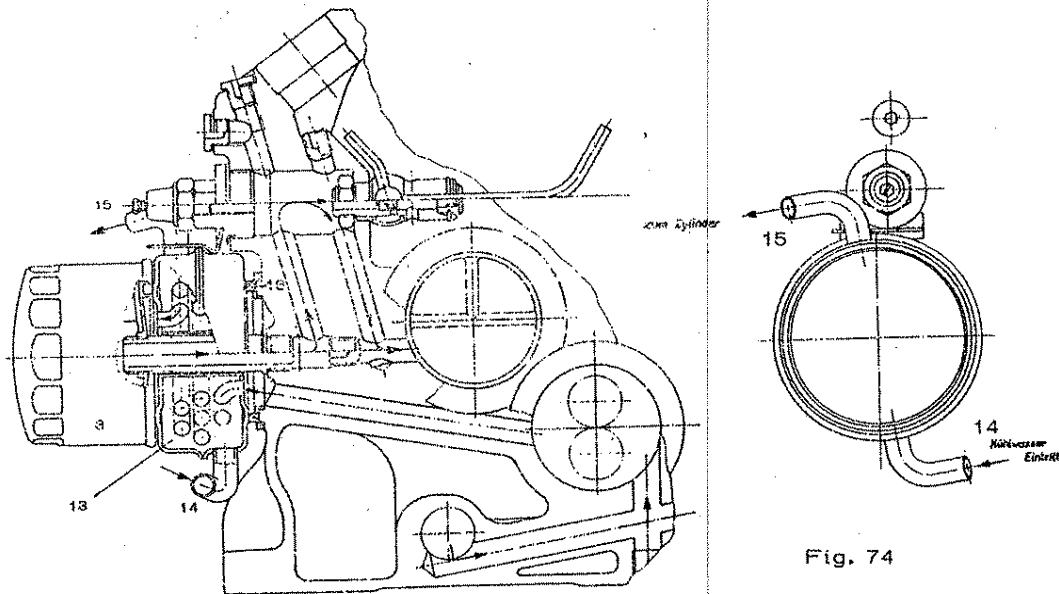

Fig. 74
Cooling water enters cooler through tube (14) coming directly from circulating pump and leaves cooler through tube (15) towards cylinder liners and by-pass water line (3) see Fig. 74.